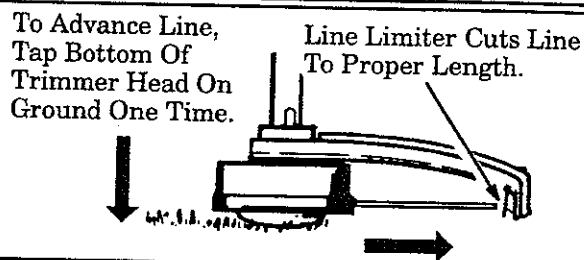

Figure 13
- **Always keep the shield in place when the tool is being operated.** Figure 13 .
3. Tap the bottom of the trimmer head lightly on the ground one time. See Figure 13 . Approximately 2 inches of line will be advanced with each tap.